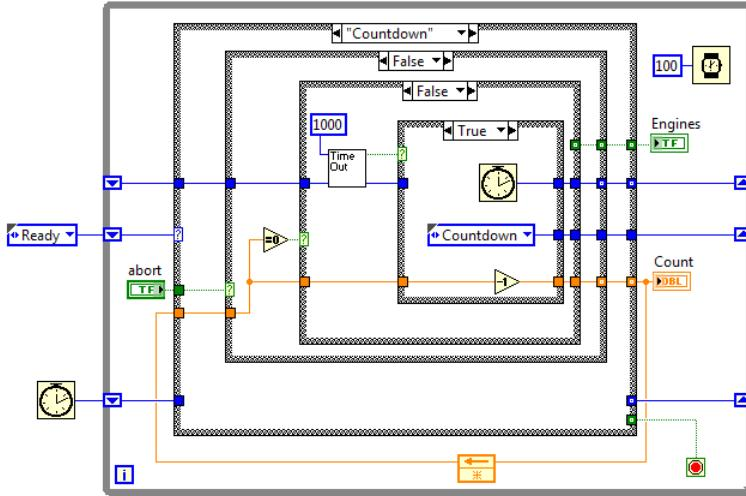

FIGURE E.17 The Countdown state showing the code to handle expiration of the 1 second timeout.
3. Use the Timeout VI you made earlier, and a new, innermost case structure to give the code shown in Fig. E.17. The case showing is what we do when the 1 second timeout has expired: we decrement Count by 1, and stay in the Countdown state.